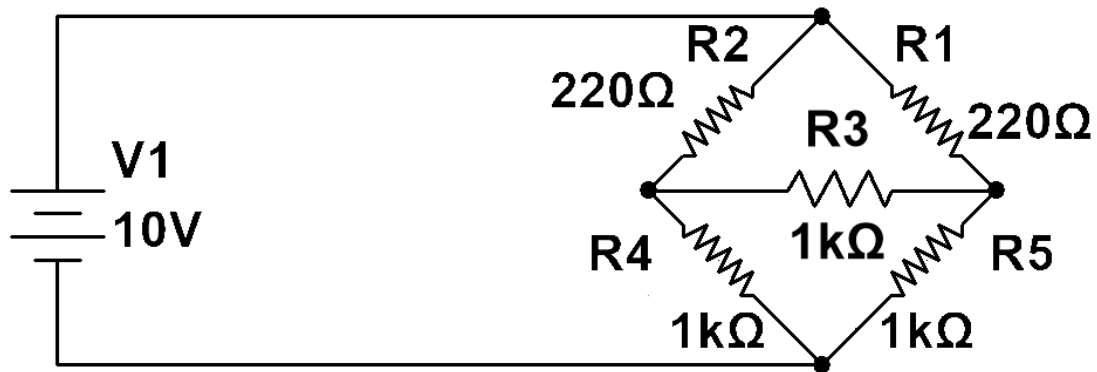

FIG 5.4
- (a) Construct the network of Fig 5.4, insert the measured values of the 220Ω resistors, assume for the moment that each $1K\Omega$ resistor is exactly $1K\Omega$.